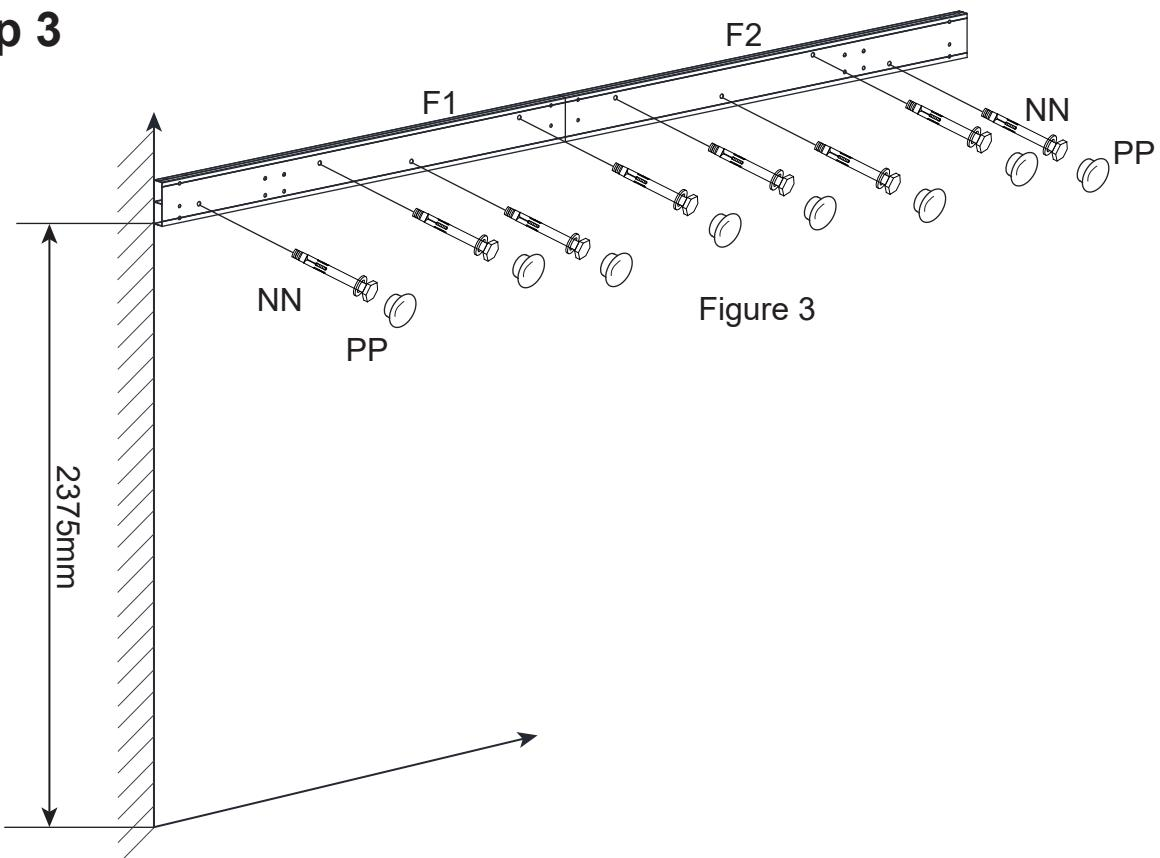

Figure 3
3. Adjust the height between the bottom Rear Lintel (F1/F2) and the ground to 2,375mm. and secure the Rear Lintel (F) onto the wall by using Bolts (NN) .Then cover the holes with Caps (PP). See Figure 3.